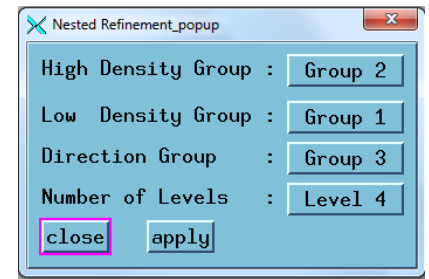

Figure 14.4
- Select group 2 as High density group as shown in figure 14.4.